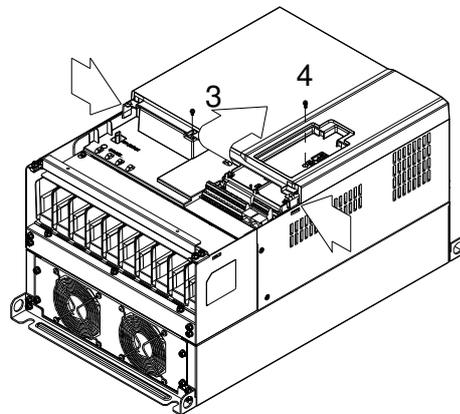

Figure 2
2. (Figure 2) Loosen screw 3, press the tab on the right and the left to remove the cover. Screw 3, 4 『Torque : 6~8kgf-cm (5.2~6.9lb-in)』